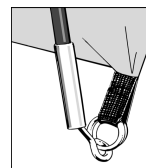

Figure 1.
1. Locate one end of each pole onto the corresponding metal pin. The metal pin inserts into the hollow metal ferrule on the end of each pole. **(See Figure 1)**. Push the pole into a curve from the the opposite side, one at a time, and locate all pole ends onto the metal pins.